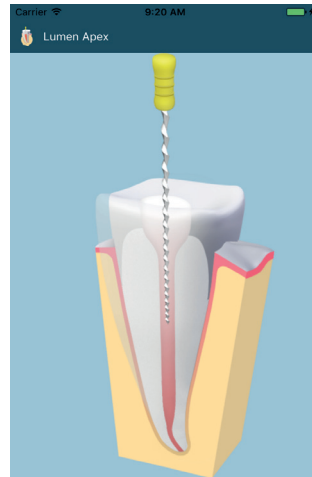

Fig. 3
4. Plug the cable (3) into the unit socket labelled *Patient*. Insert the lip contact (5) into the socket (4) all the way to the end. Insert up to the end either the clip probe (7) or the extension probe (8) to the socket (6). Sockets (4) and (6) are identical for using both lip contact and clip probe. **To switch the unit on** connect the lip contact (5) with the metal end of the clip probe (7) or the extension probe (8) shortly and keep for a few seconds until the diode (11) once emits yellow light and starts flashing green every 4 seconds. In a short time the unit will communicate with the smart device via Bluetooth, and after connection the cross-sectional view of dental root canal model on display becomes colored (Fig. 3). The unit is ready to use.